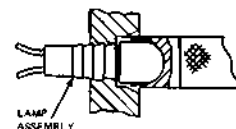
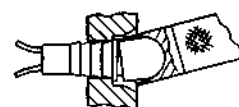

Fig. 2—Countersunk End of Tool Over Cap
Fig. 3—Snapping Cap Off by Moving Tool to One Side
3.01 To remove a lamp cap, place the countersunk end of the extractor tool over the lamp cap, as shown in Fig. 2. Snap the cap off by moving the tool to one side, as shown in Fig. 3. Remove the cap from the tool.